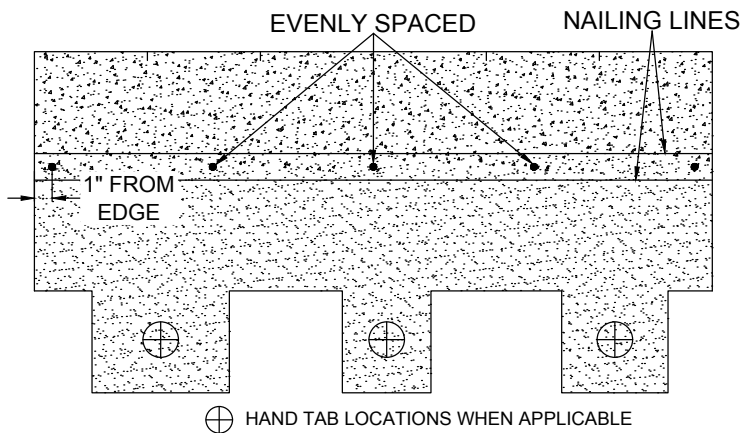

Figure 10 - Windsor, 5-Nail Fastening Pattern and Hand-Tab Locations
Windsor Nailing Pattern: Use five (5) fasteners for each shingle, evenly spaced across the shingle, and placed within the *high nailing area* designated by the parallel *nailing lines*. Ensure the outside fasteners are approximately 1" (25 mm) from each edge. (See Figure 10)